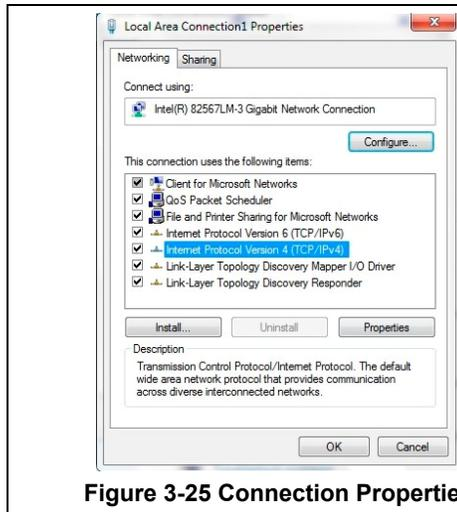

Figure 3-25 Connection Properties
- Select **Internet Protocol Version 4 (TCP/IPv4)** from the Properties screen, Figure 3-25